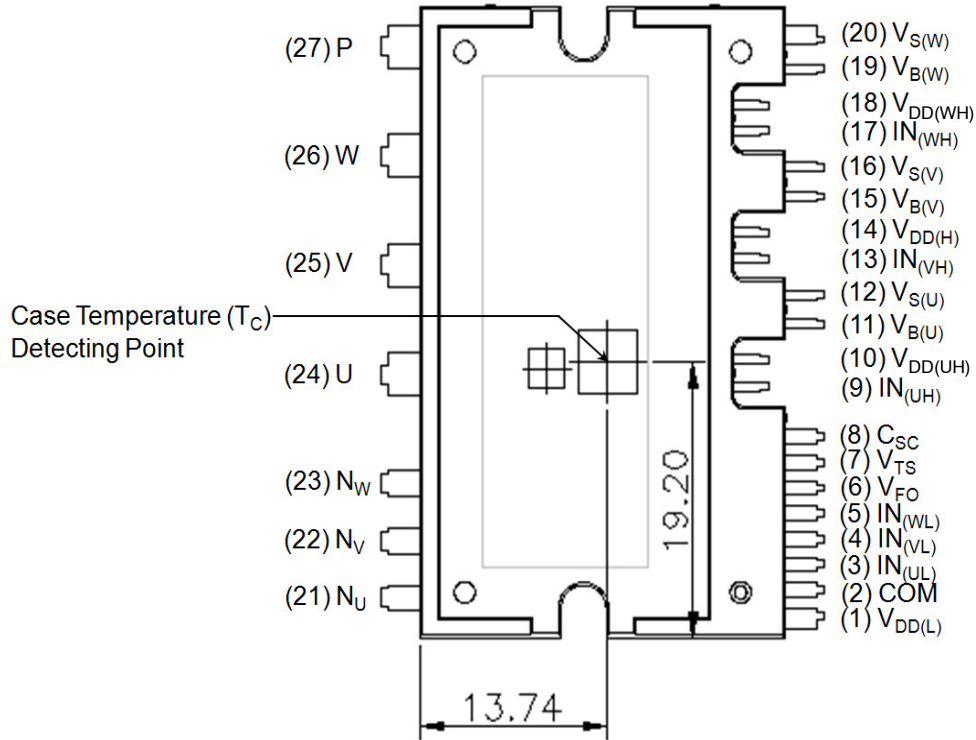

Figure 1. Top View
4. For the measurement point of case temperature ( $T_C$ ), please refer to Figure 1. DBC discoloration and Picker Circle Printing allowed, please refer to application note AN-9190 (Impact of DBC Oxidation on SPM® Module Performance).